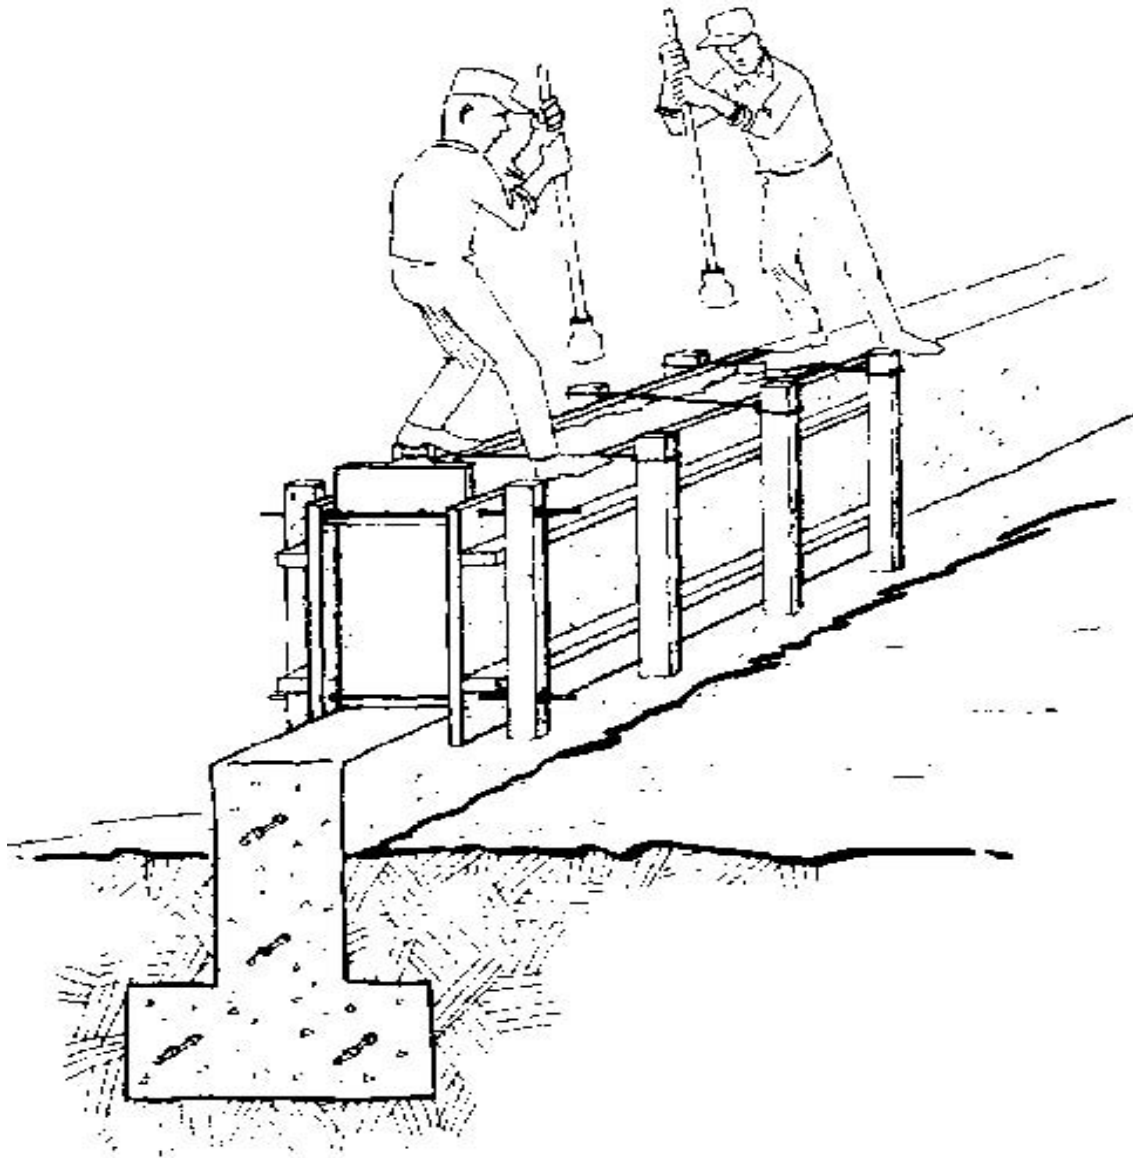

Figure 80.
*CONSTRUCTION PROCEDURE* - The construction procedure for rammed earth walls is very similar to that used for earth blocks. The first step is to install the termite shields, if required. Bend them down so they are flat against the side of the foundation wall. Then, place the forms over the foundation wall and draw them up tight against it with the bottom row of bolts, wires, or whatever you may be using. The end gates and spacer blocks are then inserted and the top row of bolts is tightened. You are now ready to start ramming. Figure 80 shows a rammed earth' wall under construction.